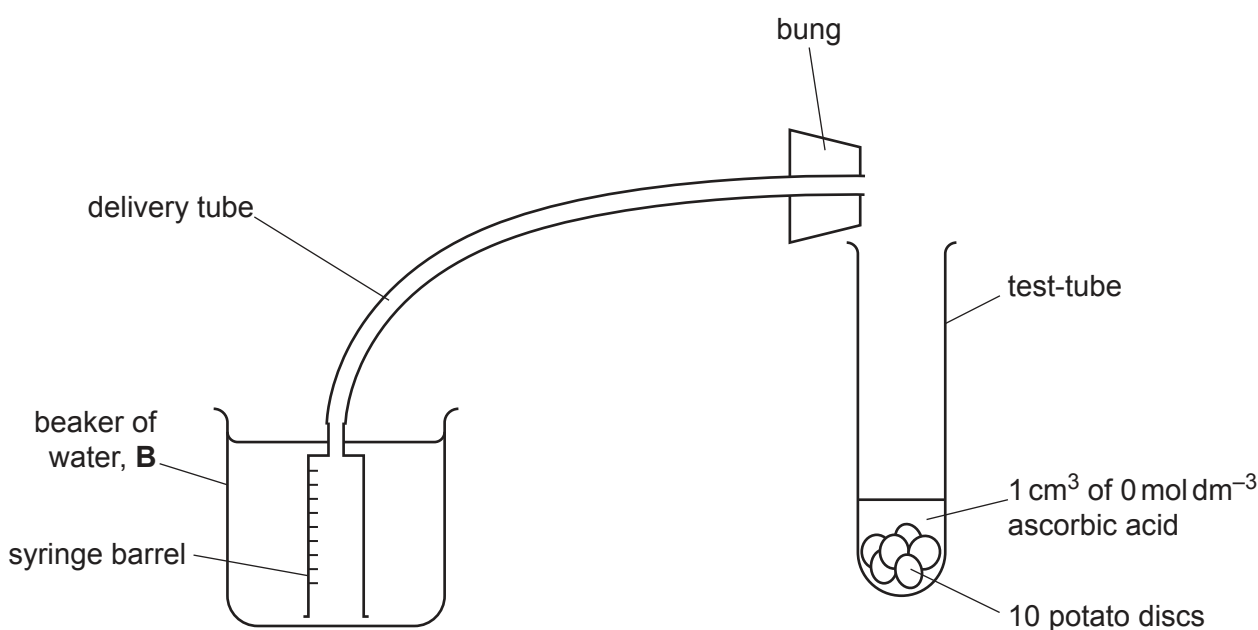

Fig. 1.2
- step 8 Set up the apparatus as shown in Fig. 1.2 using the test-tube labelled **0**. The syringe barrel should be fully submerged in the beaker of water, **B**.